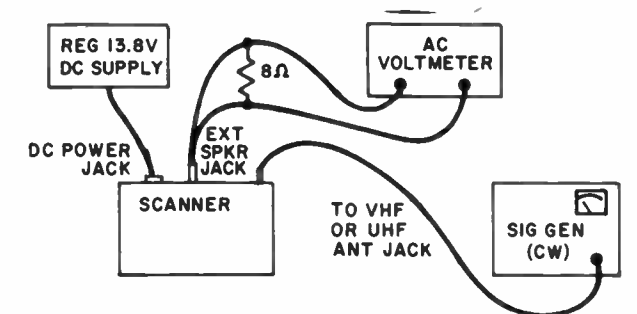

Figure 8—Test Setup for UHF RF Alignment and Sensitivity Measurement.
1. Connect the test equipment as shown in Figure 8.
3. Set the channel 1 program switch to UHF (U) and the squelch control CW.
1. Connect the test equipment as shown in Figure 8